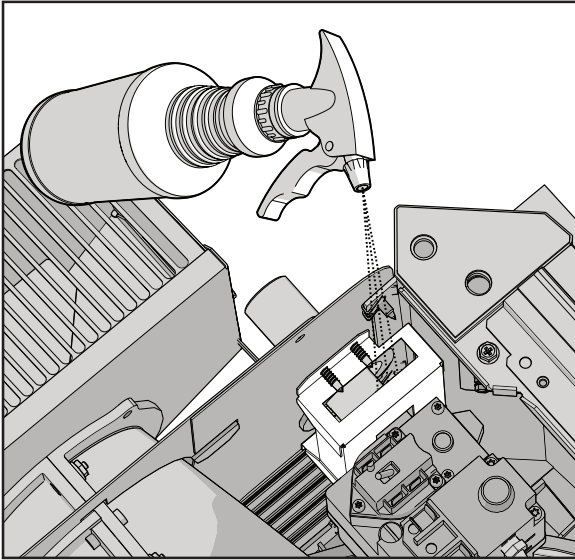

Figure 15. Spray Soap Solution for Leak Test
2. Test the complete gas supply system and all connections for leaks using a soap solution (Figure 15).